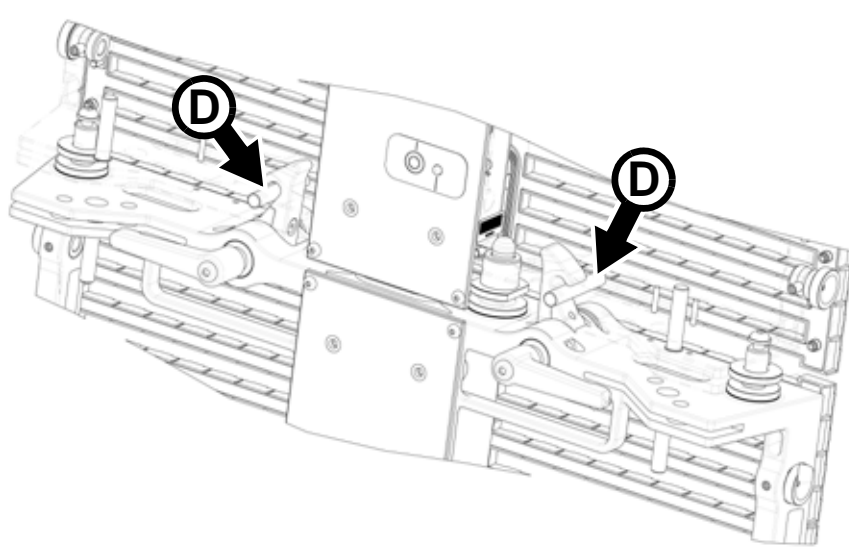

Figure 12: Hooks close around locking posts (cutaway view)
5. See Figure 12. Lift the panel until you hear both locking hooks click as they lock around the locking posts **D** in the Header or panel above. Pull the panel back down to fully engage the hooks around the locking posts **D**.